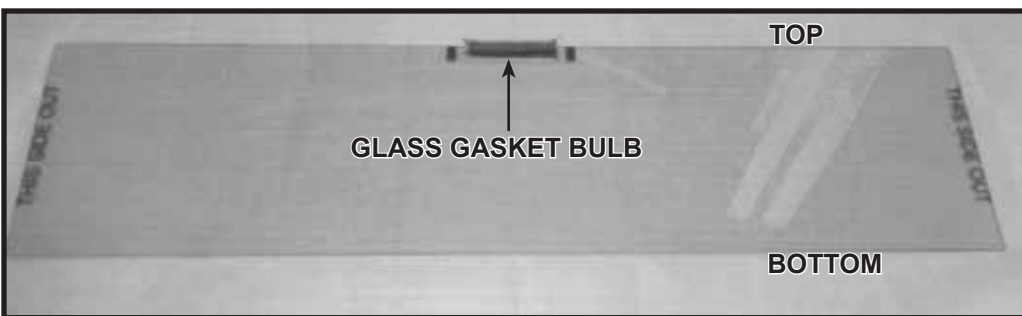

Figure 11.4 Glass Gasket Detail - Black Granite Finish
**Note: Ensure the glass gasket is installed.** The glass gasket bulb should be positioned on the outside surface of the barrier glass surround as shown in Figure 11.4. It is labeled "THIS SIDE OUT."